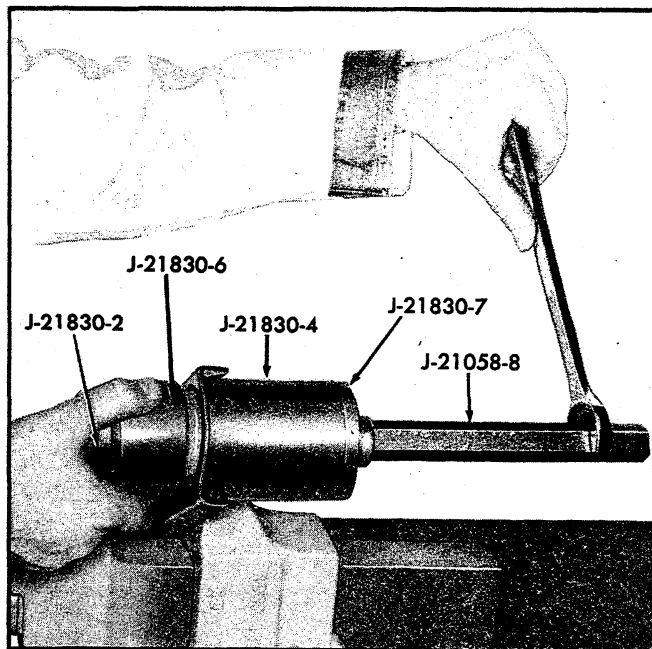

Fig. 32—Upper Control Arm Bushing Installation (Chevrolet)
5. Position Puller Screw J-21058-15 through J-21830-2 and bushing so that head of screw rests against J-21830-2. Position this assembly in control arm as shown in Figure 32.
6. Install receiver, bridge, thrust bearing and nut to complete installation as shown in Figure 32.